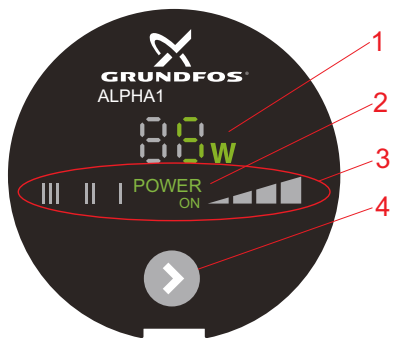

Fig. 11 GRUNDFOS ALPHA1 operating panel
The display (fig. 11, pos. 1) is on when the power supply has been switched on.
The "POWER ON" light field (fig. 11, pos. 2) is on when the power supply has been switched on.
The pump has seven optional settings which can be selected with the push-button. See fig. 11, pos. 4.
Every time the push-button (fig. 11, pos. 4) is pressed, the pump setting is changed.